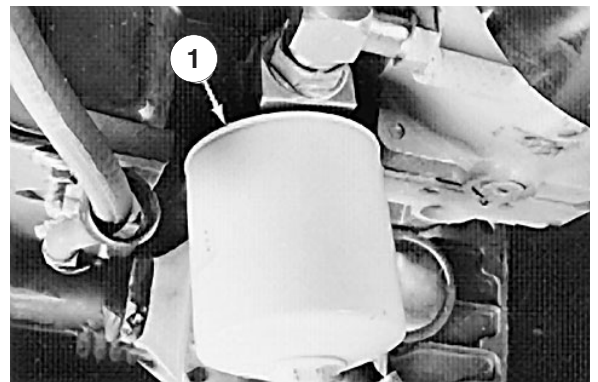

Figure 49
1. Clean the area where the hydraulic oil filter mounts. Remove the filter from the base (Fig. 49) and clean the filter mounting surface.